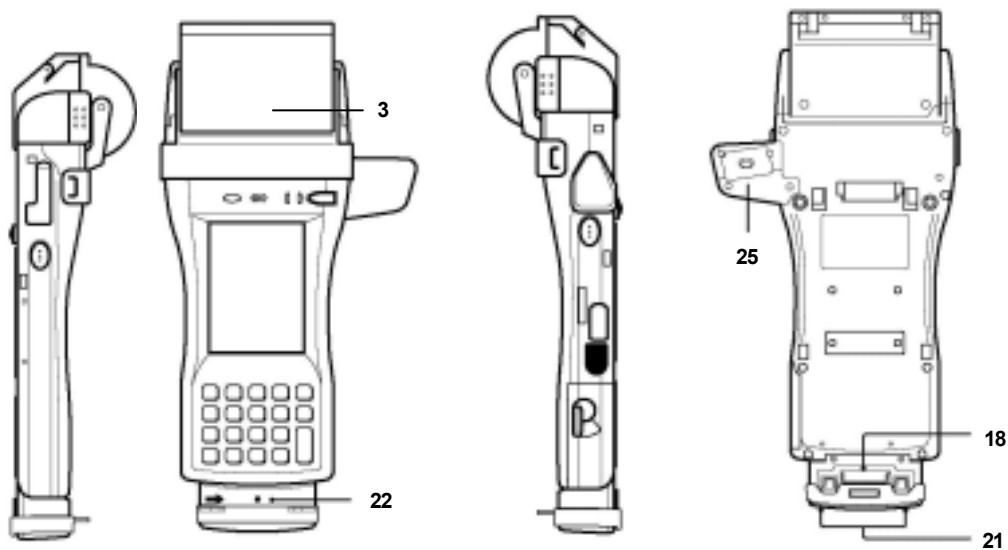

Fig. 1.3
- The model “IT-3000M54E2” does not integrate the imager (item no. 25 in Fig. 1.3). Instead, it comes with another serial interface (8-pin).
- The models IT-3000M56E and IT-3000M56U do not integrate the MCR (item no. 22 in Fig. 1.3).